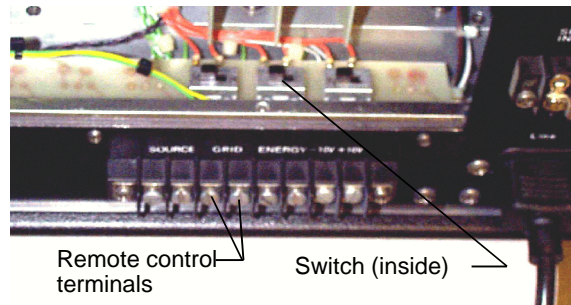

Figure 4.7.2 Typical power supply with rear access panel removed, showing remote switches
- d. Change the position of the Grid switch inside the Power Supply from L (Local=left) to R (Remote=right) as viewed from the rear of the Power Supply (Fig. 4.7.2).